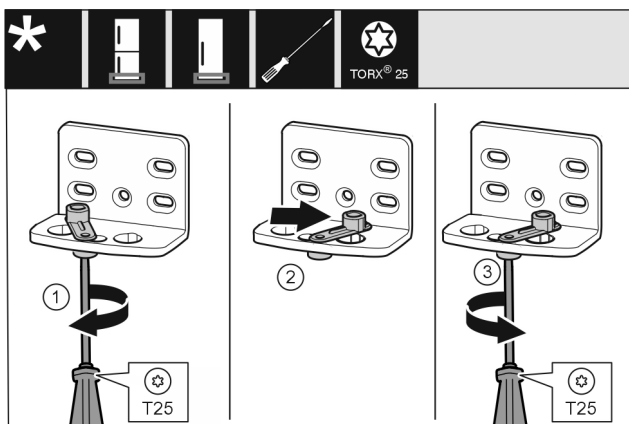

Fig. 14 *
- ▶ Loosen the screw using a T25 screwdriver. *Fig. 14 (1) **
- ▶ Lift the door closing aid and turn it 90° to the right in the hole. *Fig. 14 (2)**
- ▶ Tighten the screw using the T25 screwdriver. *Fig. 14 (3) **